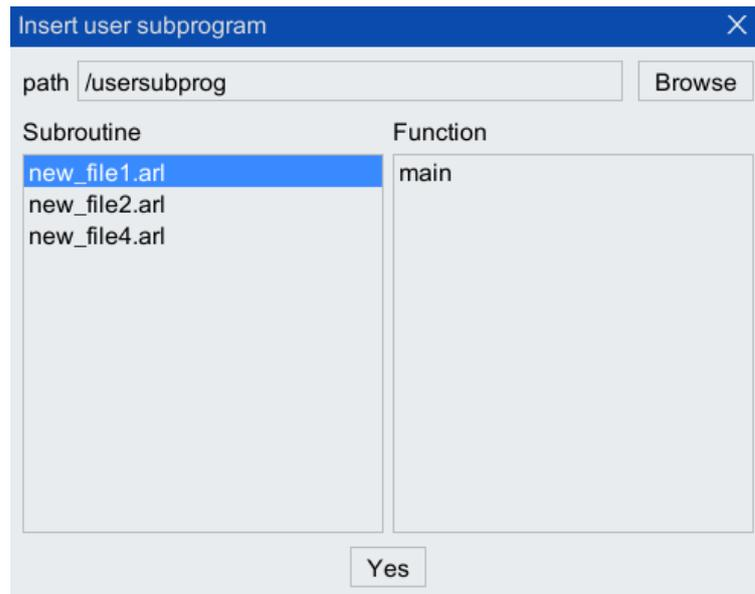

Figure 5-60 Subprogram is inserted along with its path
Step3.The programs that can be inserted under the folder (the program contains the subprograms that can be inserted) will be displayed in "Insert User Subprogram" interface, as shown in Figure 5-60.